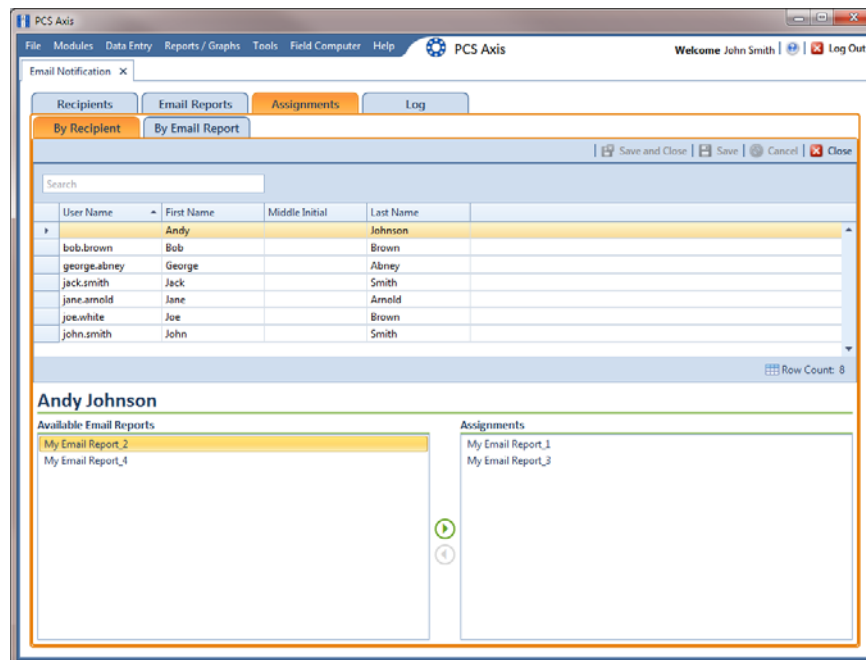

Figure 12-12. Assignments By Recipient
- a Click **By Recipient** **By Recipient** if it is not selected (Figure 12-12).